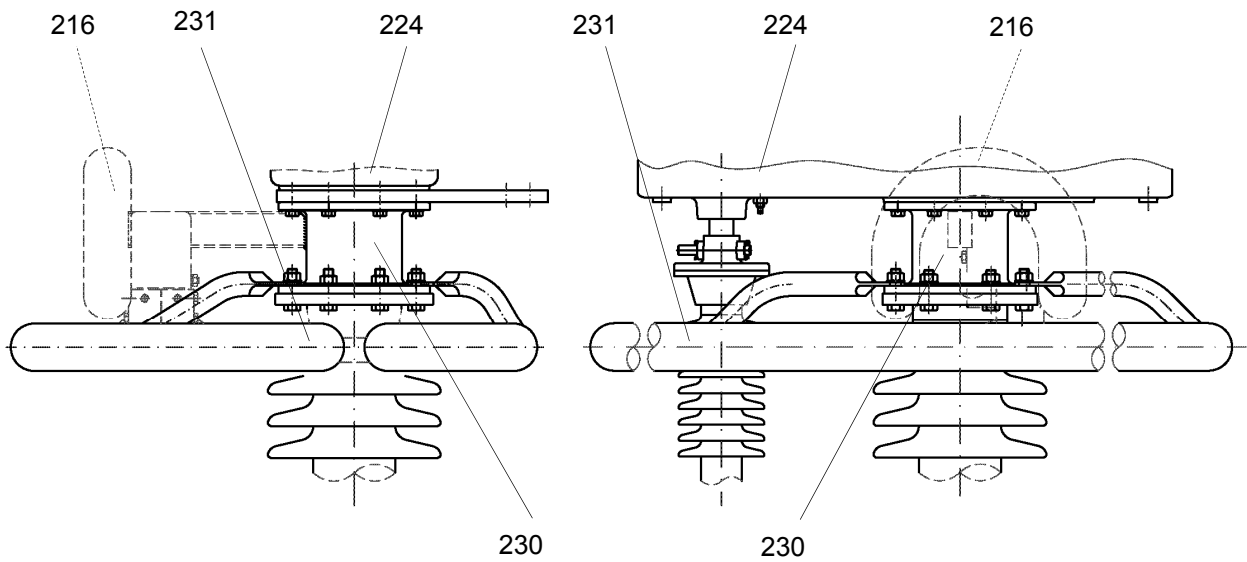

Figure 7 Installation of corona protection fittings
Each gear box bears a serial number on the pantograph side (machined surface, left-hand side, see Figure 7). When assembling the disconnecter, make sure that the gear boxes are matched with the corresponding frames bearing the same serial number (see nameplate).
- 7.3.5. Attach intermediate piece 223 to the gear box. In the case of disconnectors with built-on earthing switch, clean contact surfaces 64 between intermediate piece and gearbox in accordance with the treatment instructions of Section 11. Make sure that earthing contact 18 is in the proper position (see Figure 7).